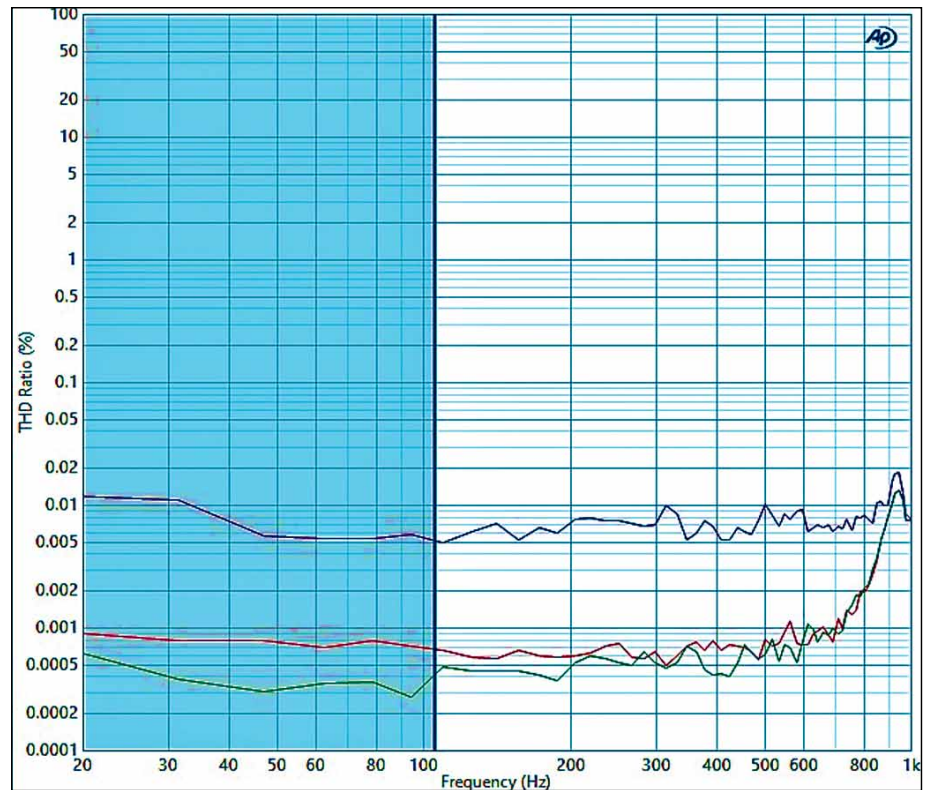

FIG. 5 THD vs. Frequency. Output, Input, DI
**Fig. 2** shows a guitar sample wave fed into the pedal. The input and output are indeed almost identical, and the smaller amplitude wave is the XLR output. A close examination of the wave showed a less than 1 mV negative shift on the output with identical amplitude. **Fig. 3** and **Fig. 4** show a breakdown of the component parts of a sine wave fed into the pedal and an equivalent breakdown of the outputs. Both graphs show the output and input levels for the target frequencies to be identical. There are very minor differences in some of the component levels of the input and output, but keep in mind that these are logarithmic scales, so the differences that are shown are in the micro- and nano-volt range. **Fig. 5** is the THD for frequencies from 20Hz to 1kHz. There is slightly higher THD+N across all frequencies on both the ¼" output and XLR. Once again, keep in mind the scales, here. The XLR output hovers around 0.01%, while the output and input hover below 0.001%. These are all very low numbers and unlikely to be noticeable.